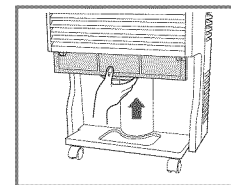

Fig.5
5. After cleaning, assemble the air filter to front grill. (Fig.5)